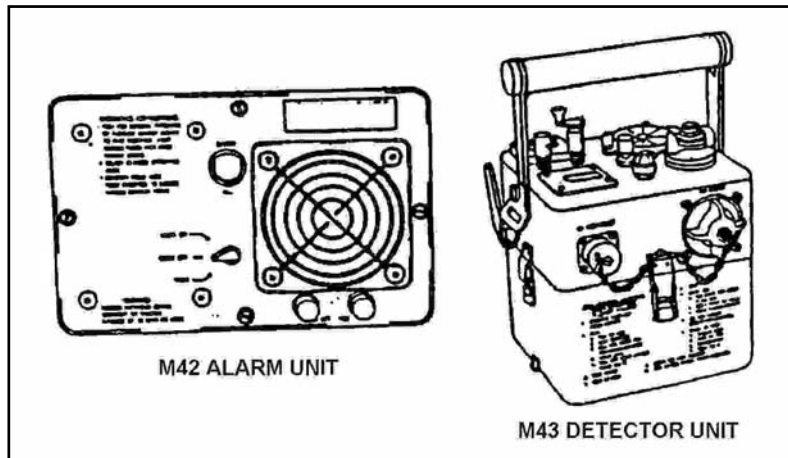
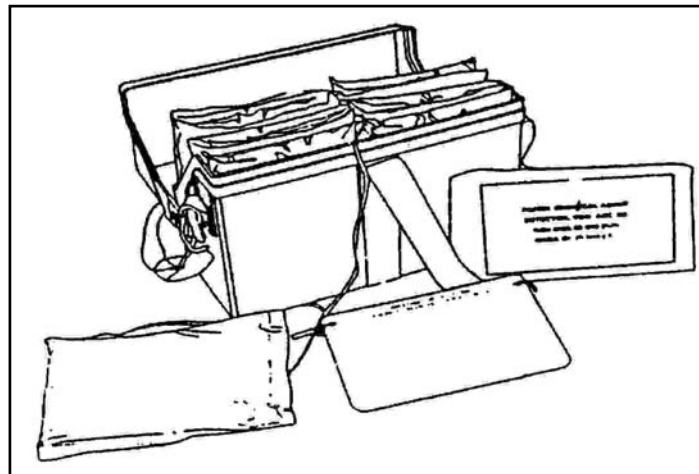

Figure 3-38. M8-series Automatic Agent Alarm
Figure 3-39. M156 Chemical Agent Detector Kit With M8 Chemical Agent Detector Paper
- c. Use chemical agent alarms and detection kits to detect chemical contamination (see Figure 3-38 and Figure 3-39).